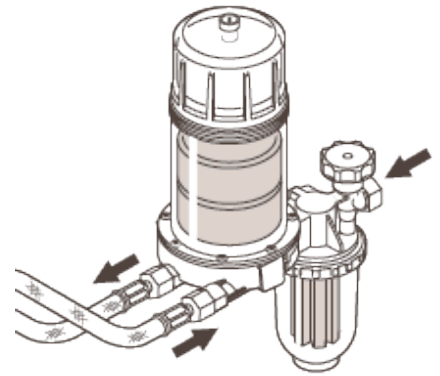

Figure 14
- Connect the two oil hoses from the burner to the oil filter. Pay attention to the arrow indications, make sure the arrow directions of the pump and the oil filter match, supply and return (see figure 14.)